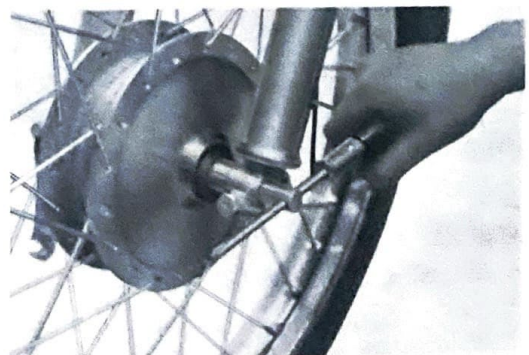

Fig. 5-1-5
- 4) Pull out the shaft. (Fig. 5-1-5)